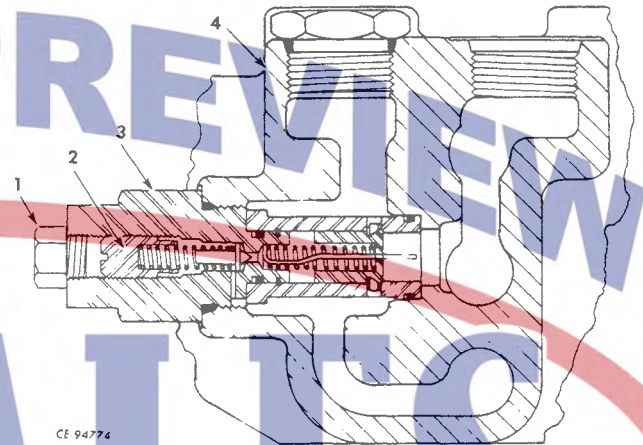

FIG 3 — Inlet Valve Cross Section
a. Remove the plug (1, Figure 3) from the relief valve cap (3).
b. Turn the adjusting screw (2) clockwise to increase the pressure or counterclockwise to decrease the pressure. After the correct pressure is obtained, install the plug.